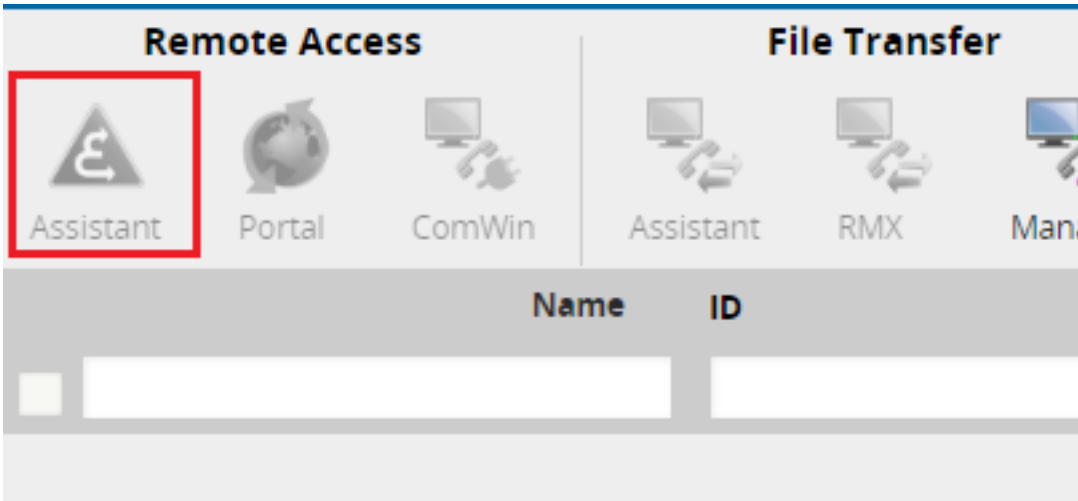

Figure 86: Direct Access: Assistant icon
- 2) If applicable, select the system being tested from the list displayed in the Direct Access GUI (see Figure 86).